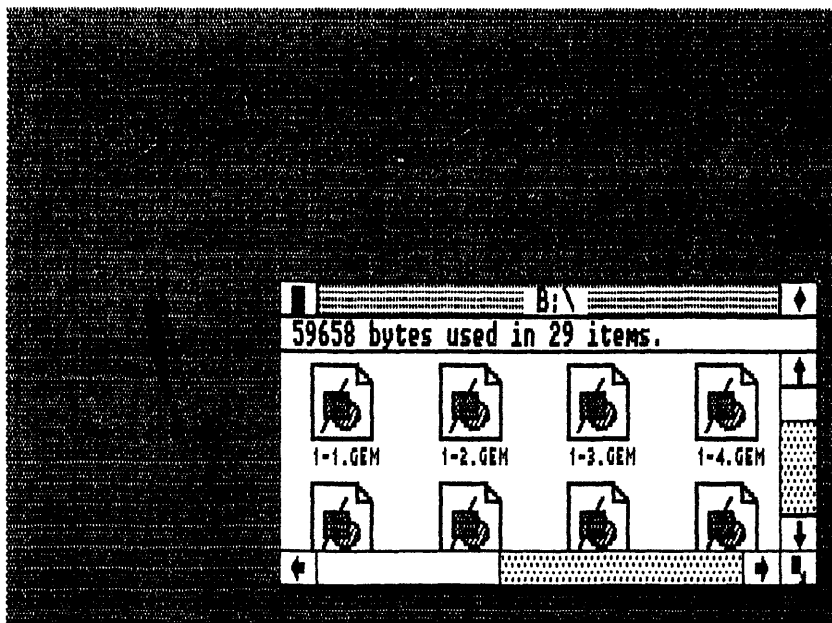

Fig. 1-7. Clicking in the Close Box on the active A:\ window removes that window from the desktop.
- Click on the Close Box on the Title Bar to close a window (Fig. 1-7).